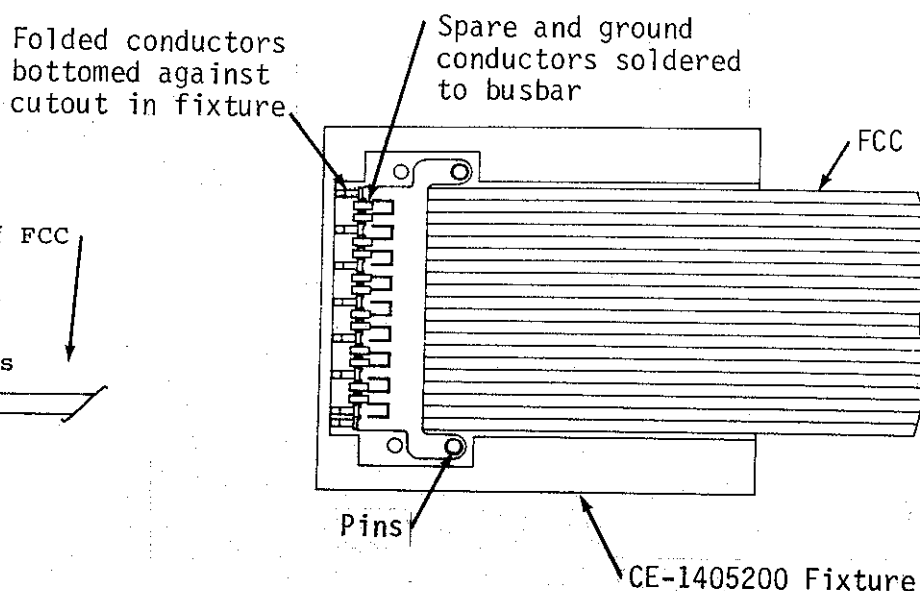

Figure 3C. Use of CE-1405200 Alignment Tool
- \* Use the CE-1405200 alignment tool to position the busbar and FCC (Figure 3C).